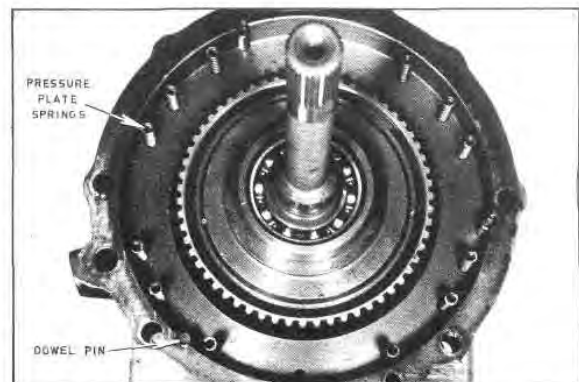

Fig. G76 — Assembly of the Pressure Plate Springs and Dowel Pins
40. Assemble the twelve (12) clutch pressure plate springs in the holes provided in the reverse clutch cavity of the case, as shown in Figure G76.
41. Coat the three (3) dowel pins with petroleum jelly and assemble them in the three (3) grooves provided in the reverse clutch cavity of the case (Figure G76).